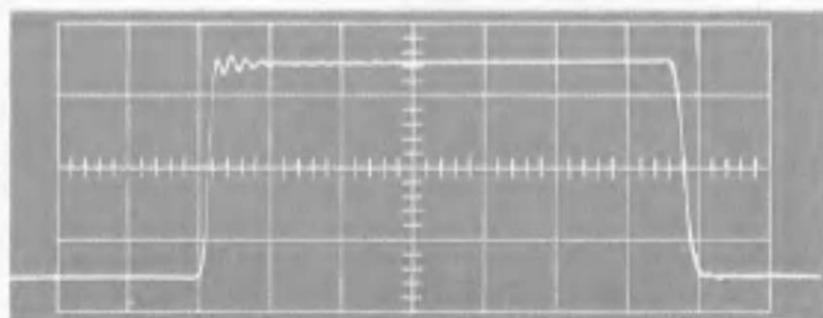

Fig. 2-7. Illustrating spurious ringing (damped oscillation) that might occur as a result of the use of a probe that is unsuited to the oscilloscope.
b. Use a probe of a type specified for the oscilloscope. For example, if you are using an oscilloscope whose vertical-deflection-system bandwidth greatly exceeds 10 megacycles, and if you use a probe intended for oscilloscopes having a smaller vertical-deflection-system bandwidth, you might observe a spurious "ringing" or damped oscillation along the top of the displayed square wave (Fig. 2-7). This spurious ringing might lead you to suspect a fault in the square-wave generator, in the oscilloscope, or in the equipment you are testing, whereas the actual difficulty lies in the use of an improper probe. →